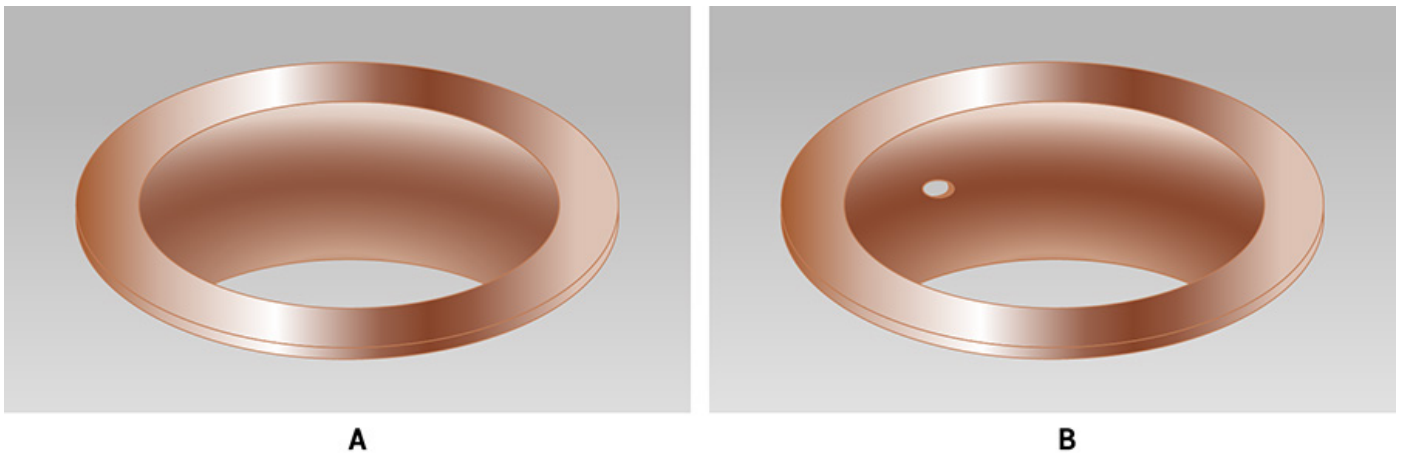

Figure 1. Acceptable plating voids in Class 2 and 3 electronics. 1a shows no plating voids, while 1b. has one plating void.
- **Plating voids.** Failure to allow for adequate copper plating in through-holes could leave behind plating voids, particularly on high-aspect-ratio vias (**Figure 1**).